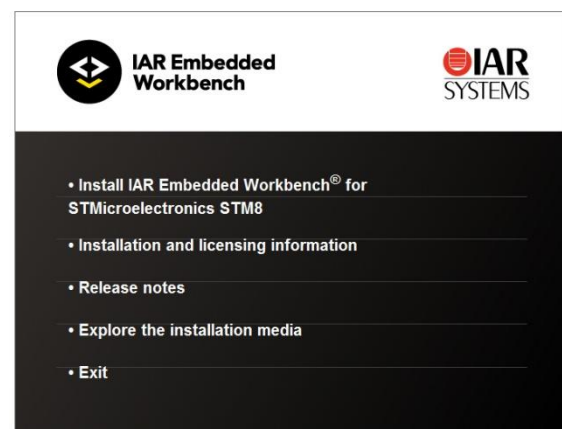

Figure 8: IAR Installation Wizard
5. Installation wizard will run (Figure 8).